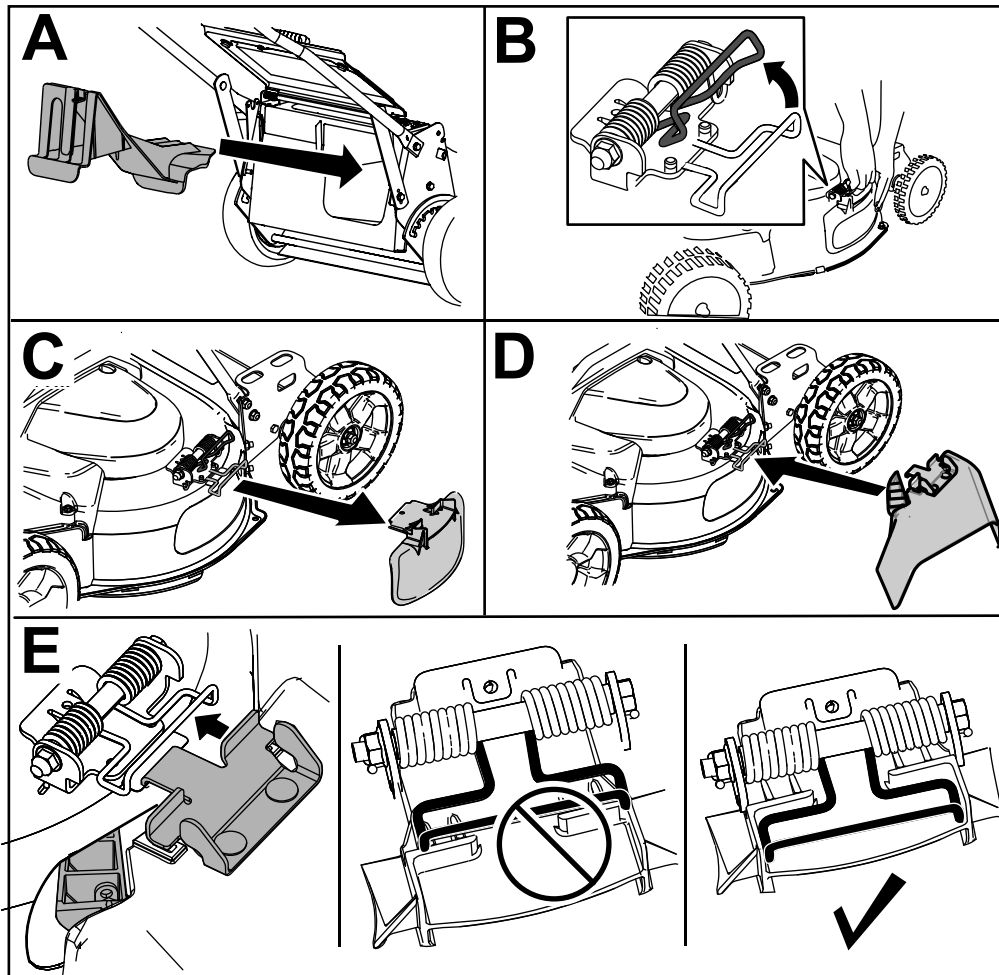

Figure 22
3. Insert the rear-discharge plug (A of Figure 22).
4. Remove the side-discharge deflector by pulling up on the spring that holds the deflector in place and removing the deflector (B and C of Figure 22).
5. Install the side-discharge chute by pulling up on the spring, placing the chute over the opening, and lowering the spring over the tabs on top of the discharge chute (D and E of Figure 22).